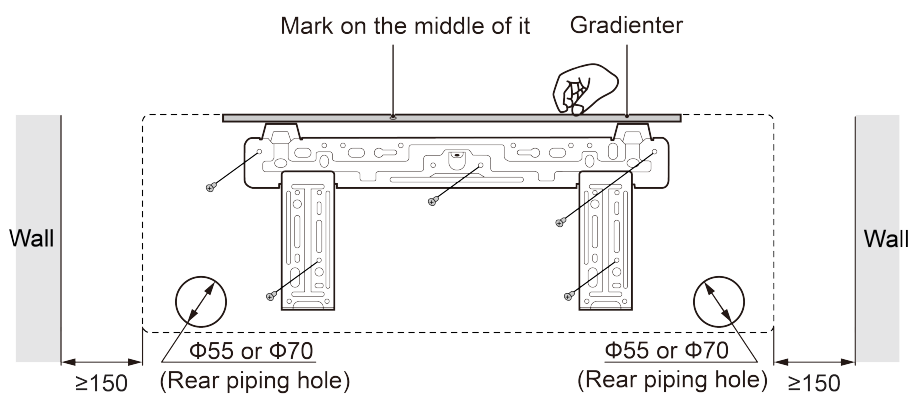

Fig. 4.2
- ① Find the horizontal position by the seton method; since the drainage pipe is on the left side, it is necessary to adjust the rear panel to make its left side a little bit lower.
- ② Fix the rear panel on the wall by bolts.
- ③ After installing the rear panel, pull it by hands to check if it is secured enough. The hang panel should support the weight of an adult (60kg), and the weight shared by every bolt should be fairly even.
- ④ The diameter showed in Fig. 4.2 is 55mm or 70mm.
- (1) Make the piping hole (Φ 55mm or 70mm) in the wall at a slight downward slant to the outdoor side. The center of the hole should be determined referring to Fig. 4.2.
- (2) Insert the piping-hole sleeve into the hole to prevent the connected piping and wiring from being damaged when passing through the hole.